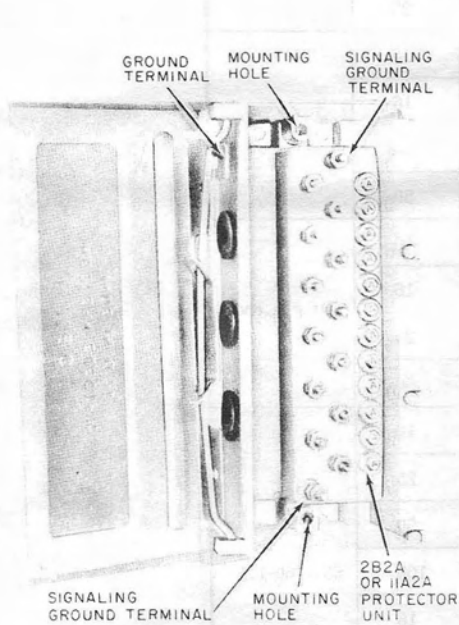

Fig. 8—116C or 116E Protector
3.13 The 116C and 116E protectors (Fig. 8) are housed in metal containers with hinged metal covers. The No. 10 ground wire (Table B) is used to ground the 116C and 116E protectors. The 116C and 116E protectors are designed for outdoor or indoor use and generally used with 6-pair multiple aerial service wire.